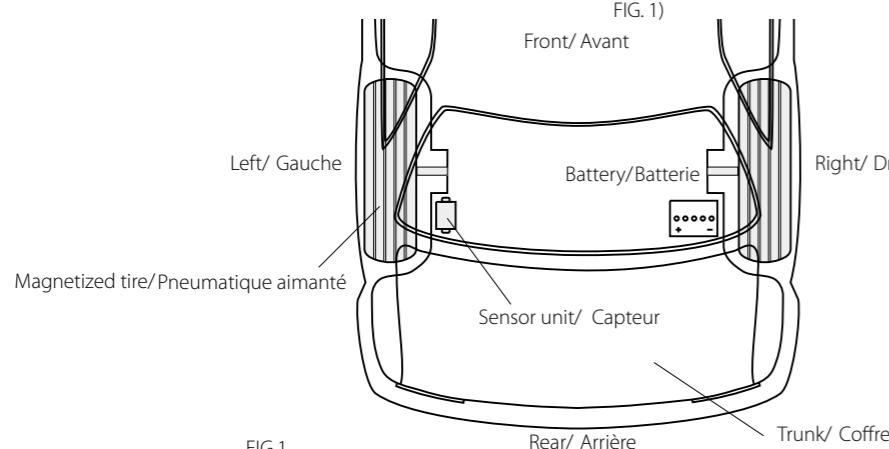

FIG.1
- Don't select a tire that is near by a battery or battery cable to avoid an incorrect sensor operation. (See FIG. 1)